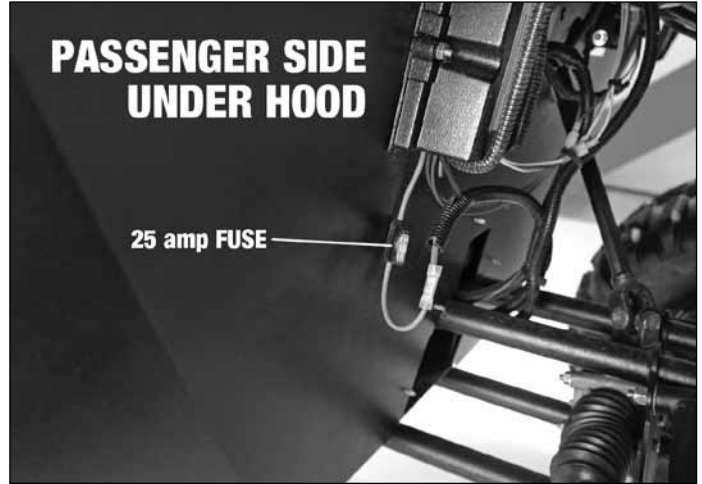

figure 4.25 (25 amp fuse)
- In addition to the main fuse, there are three smaller fuses to protect the 12 volt and 48 volt circuits. These fuses are shown in figures 4.25 & 4.26. Should these fuses blow and need replacement, a replacement fuse of the same rating must be used.